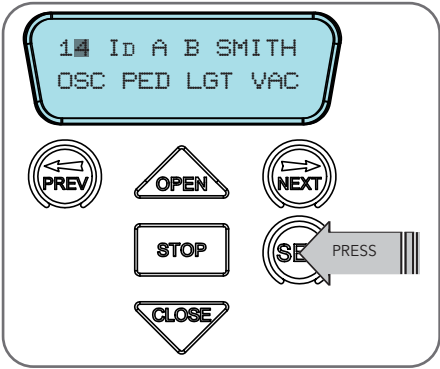

Fig F.3
- i. The example in (Fig. F.3) shows that PED is assigned to the transmitter button two.